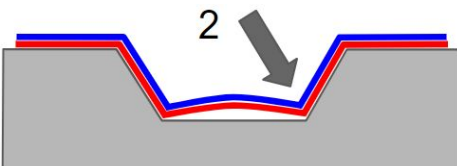

Fig.4
4) Repeat the same application process to the second corrugation as seen above. *Fig.4*